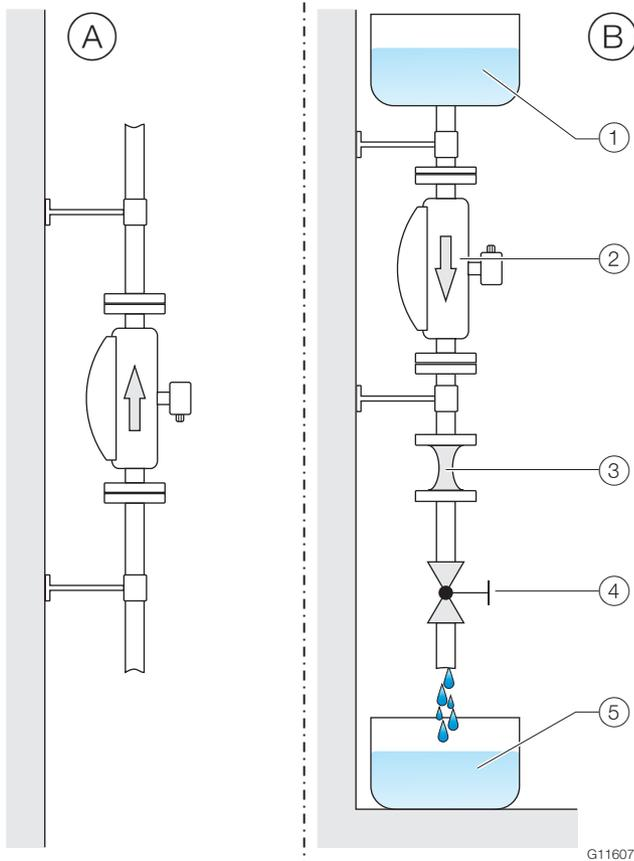

Fig. 8: Vertical installation
- The required self-draining functionality of the sensor can only be guaranteed when the vertical mounting position is used (see also Fig. 8 on page 27).